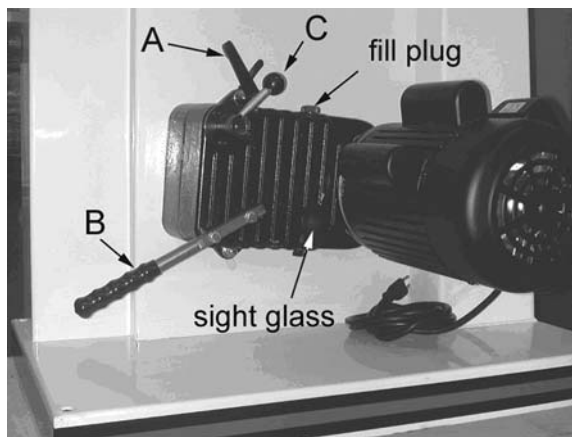
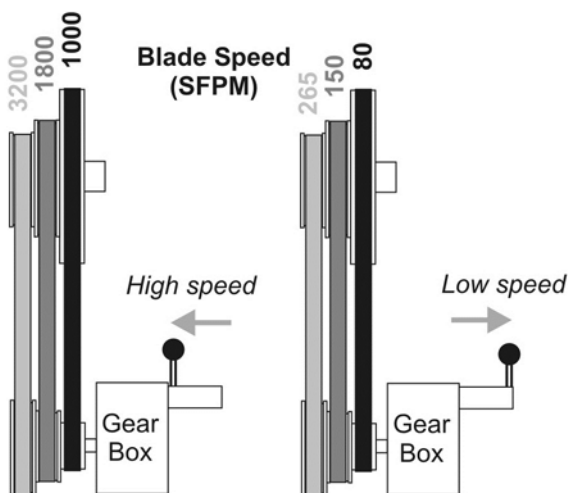

Figure 19
Figure 20
2. To change speeds, loosen the handle (A, Figure 19) and use the lever (B, Figure 19) to lift the gearbox/motor to release tension on the belt. Re-tighten the handle with the gearbox in raised position.
3. Open the lower door on the band saw and move the v-belt to the desired set of pulleys. Figure 20 shows the speeds achieved by the three belt positions.
4. Loosen the handle (A, Figure 19) and lower the gearbox. Set the belt tension by lightly pressing down on the lever (B). The weight of the motor and gearbox should put enough tension on the belt; you just want to push down lightly to take up any slack.
5. Tighten the handle (A).
6. Push in the clutch lever (C, Figure 19) to engage the *high speed* pulley drive; or pull out the clutch lever for *low speed* drive. See Figure 20 for clutch lever position in conjunction with belt positions.